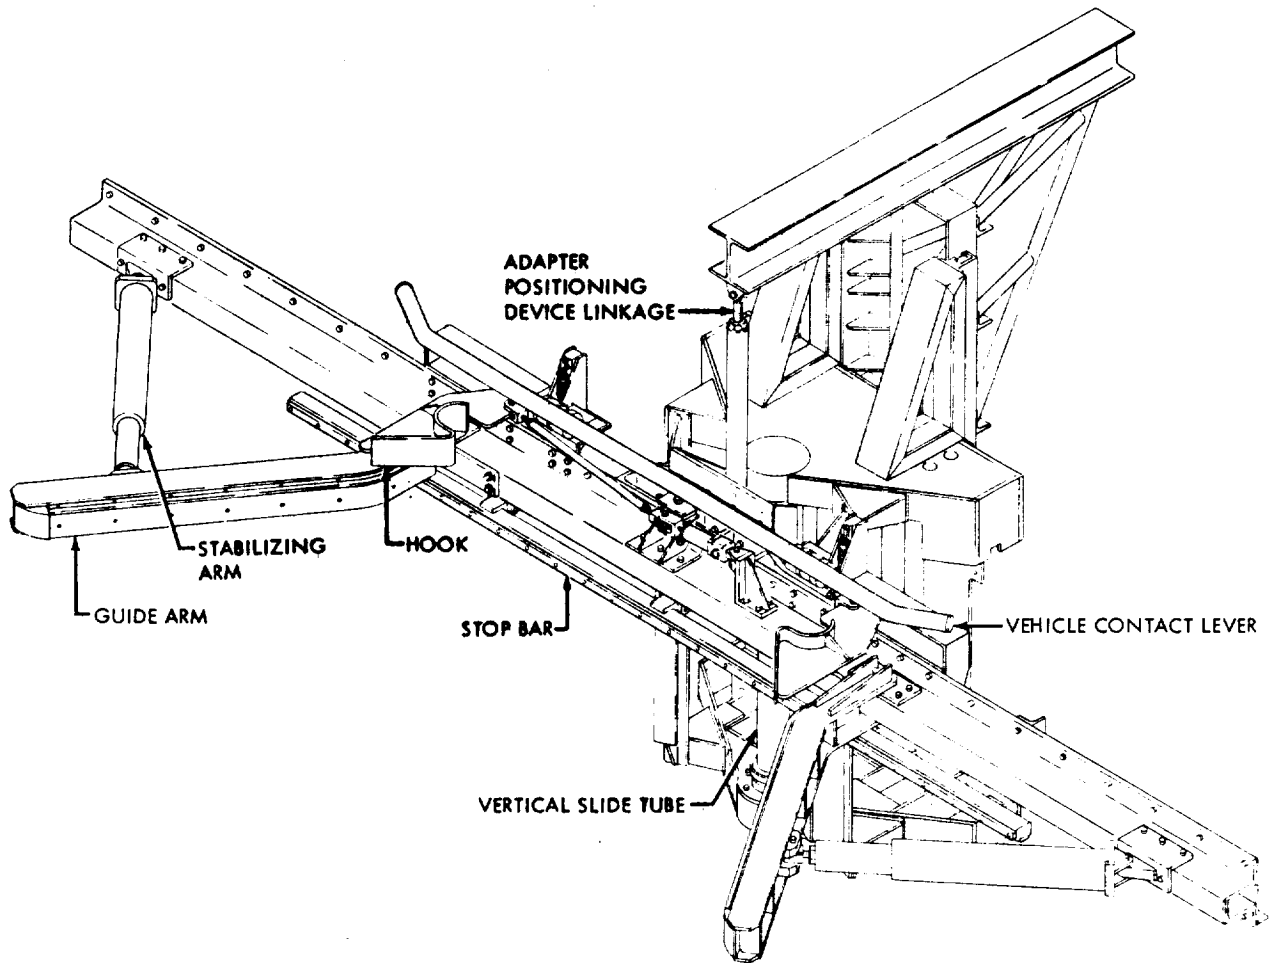

Figure 1-3. LES Coupler Assembly
1.2.3.1 LES Coupler Assembly. The LES coupler assembly (Figure 1-3) positions and holds the hood adapter in physical contact with the Command Module. Horizontal positioning is accomplished mechanically by the guide arms. Vertical positioning is accomplished by a pneumatic actuator with a 21.50 inch stroke. The hooks of the LES coupler are pneumatically opened, spring-loaded closed, and hold the hood adapter in position at the access hatch in the Command Module by grasping the legs of the LES tower. A mechanical actuator and negator spring on opposite ends of the top of the extension platform frame serve to mechanically center the LES coupler assembly whenever the extension platform is retracted. The LES coupler assembly is commonly referred to as the adapter positioning device or APD.